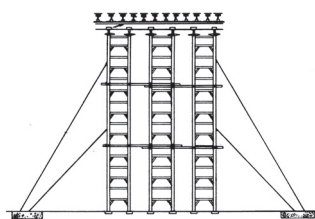

Figure 205
- Towers must remain stable during construction and dismantling. Guys may be necessary to maintain stability (Figure 205).